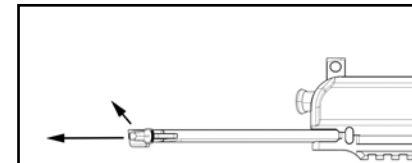

Fig. 24 – Removing the Charging Handle
- a. Pivot the upper receiver from the lower receiver, depress the catch on the charging handle and withdraw the bolt assembly from the rear. Continue to pull the charging handle to the rear until resistance is encountered. Lift up on the charging handle and separate the charging handle from the upper receiver (Fig. 24).